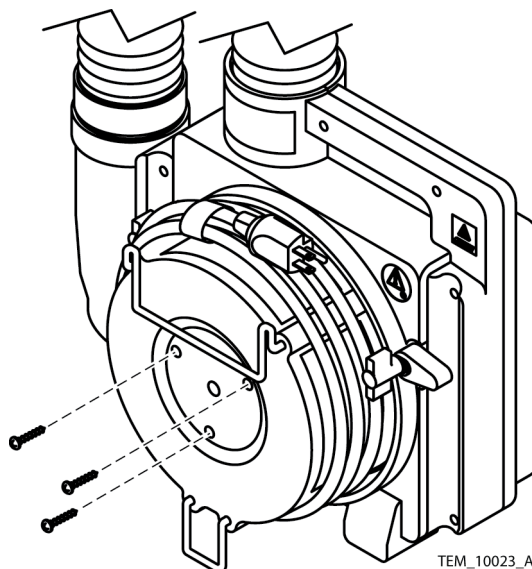

Figure 5-2. Filter Cover Screws
6. Remove the filter cover screws. See Figure 5-2.
8. Place the replacement filter cover assembly on the warming system and install the screws. Tighten the screws to 8 to 12 in/lbs (20 to 30 cm/kg). See Figure 5-2.